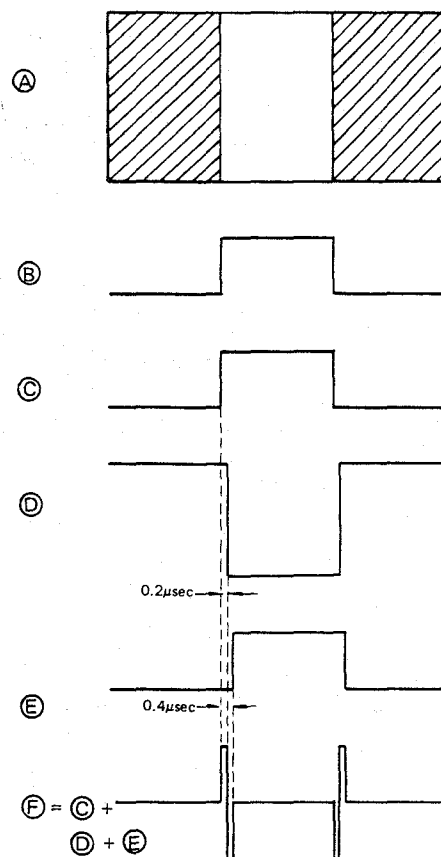

Fig. 59 Horizontal Aperture Signal
The luminance (Y_H) signal having high frequency response is supplied to the base of Q3204 through buffer Q3205 inside IC305. When the camera is pointed at an object (A), for example, the Y_H signal (B) is supplied to the base of Q3204. At this time, signal (C), passed through R3209 and R3205, signal (D), delayed $0.2\mu s$ by delay line DL302, and signal (E), which results from the delayed Y_H signal being reflected back through DL302 and delayed again ($0.4\mu s$) appear at the collector of Q3202, where they are mixed in fixed proportions to make up the H aperture signal (F). (See Fig. 59).